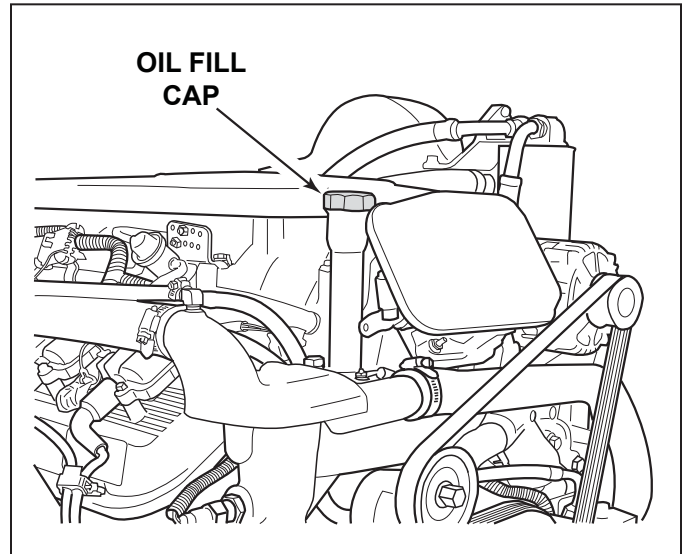

Figure 11-15 Engine Oil Fill
4. Fill the engine with the recommended oil, see OIL REQUIREMENTS, through the oil fill location on the valve cover (Figure 11-15).